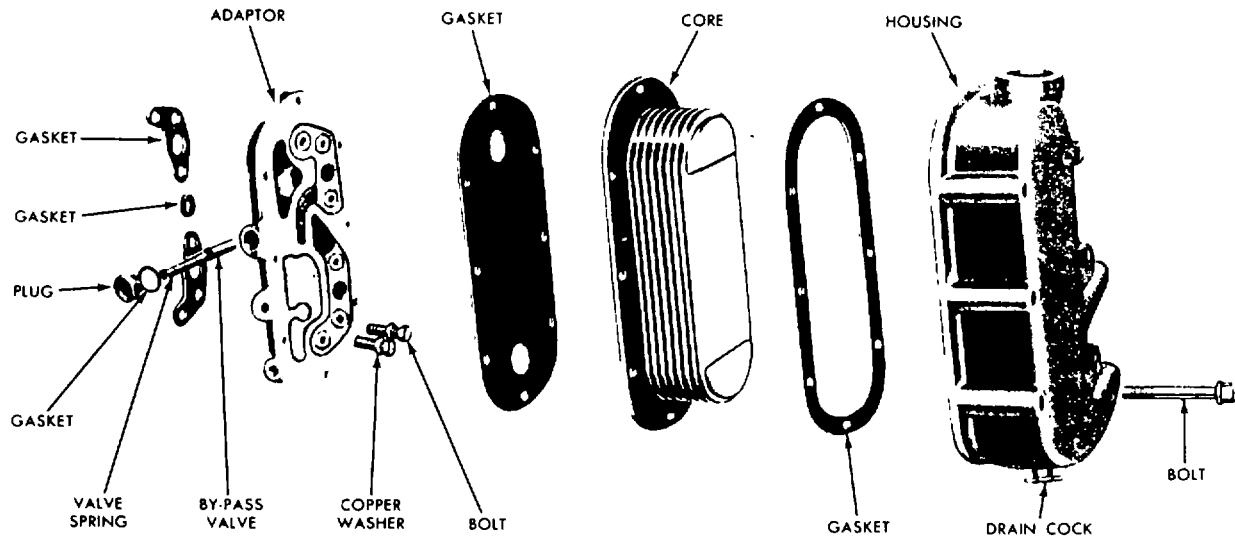

Figure 5-24. Oil Cooler Disassembly and Reassembly.
(1) Drain cooling system.
(2) Loosen and slide clamps and hose back on water inlet elbow on cylinder block.
(3) Loosen and slide clamps and hose back on tube leading from thermostat to water pump.
(4) Remove bolts and lock washers which attach the water pump to the oil cooler housing.
(5) Remove the oil filter assembly.
(6) Matchmark end of oil cooler housing, cooler core and adaptor with a punch or file so they can be reinstalled in same position.
- (7) Refer to Figure 5-24 and remove bolts and lockwashers which attach oil cooler housing to adaptor.
- (8) Remove housing and core as an assembly.
(9) Remove oil cooler adaptor as required.
(10) Remove all gasket material from mating surfaces.
- b. Disassembly. Disassemble oil cooler as illustrated in Figure 5-24.